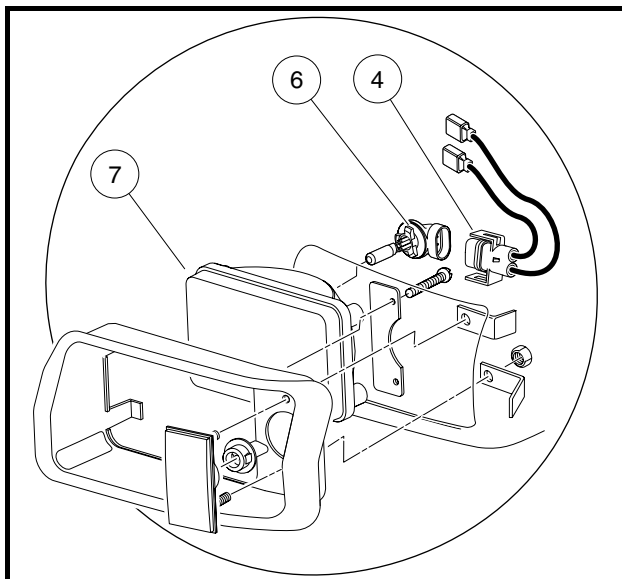

Figure 13-28 Headlight Assembly
3. From the front of vehicle, reach under body and turn the wire harness/halogen bulb assembly (4 and 6) clockwise one-quarter turn (**Figure 13-28, Page 13-27**).
4. Remove the wire harness/halogen bulb assembly (4 and 6) from the headlight lens (7).
5. Lift the retaining tabs on the connector (4) and remove halogen bulb assembly (6).
1. Connect wire harness (4) to the halogen bulb assembly (6). The retaining tab should lock onto the halogen bulb assembly (**Figure 13-28, Page 13-27**).
2. From the front of vehicle, reach under body and insert wire harness/halogen bulb assembly (4 and 6) into the headlight lens (7).